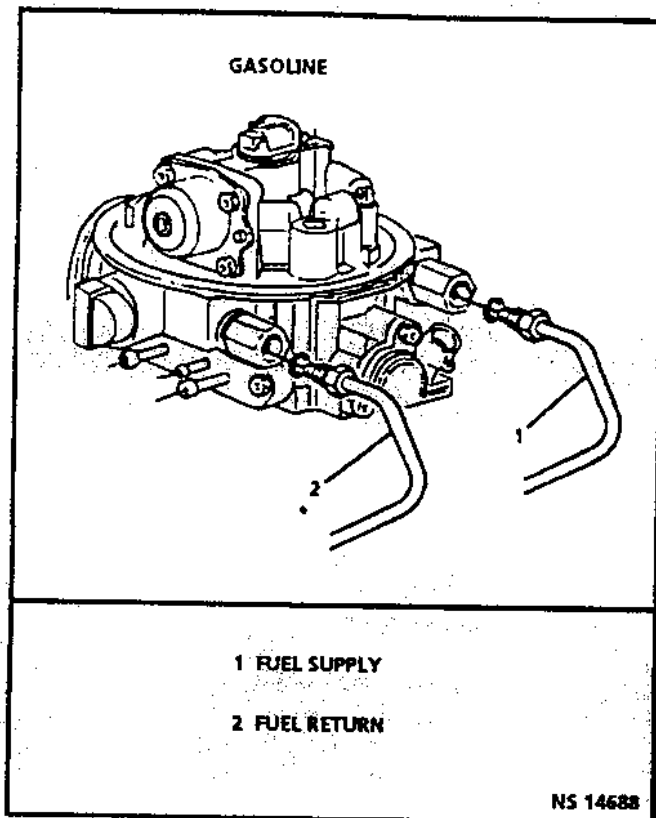

Figure 3.2-12 Fuel Hoses
5. Inlet and outlet fuel hose nuts, using back-up wrench (Figure 3.2-12).